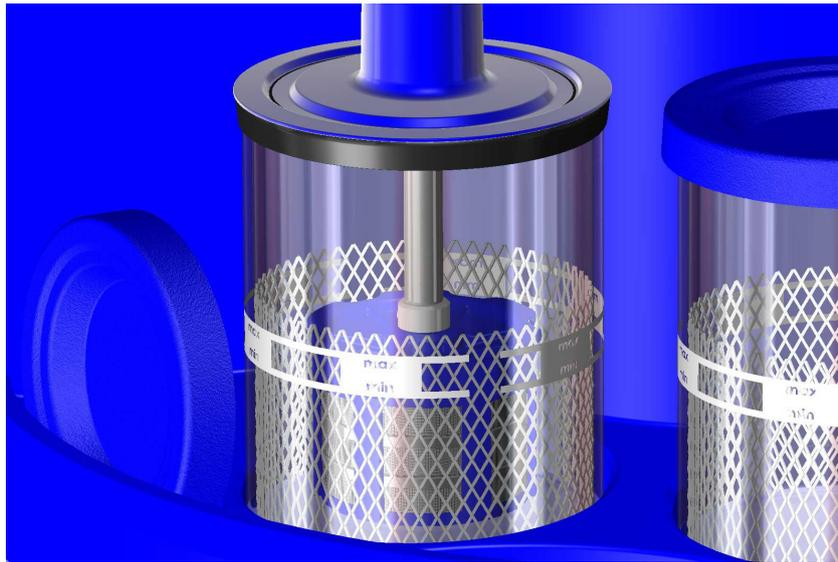

Fig. 3.8.5. Cleaning / rinsing position (bottom position)
- Bottom position: (in the media tank – in the cleaning / rinsing liquid cleaning / rinsing position (Fig. 3.8.5).